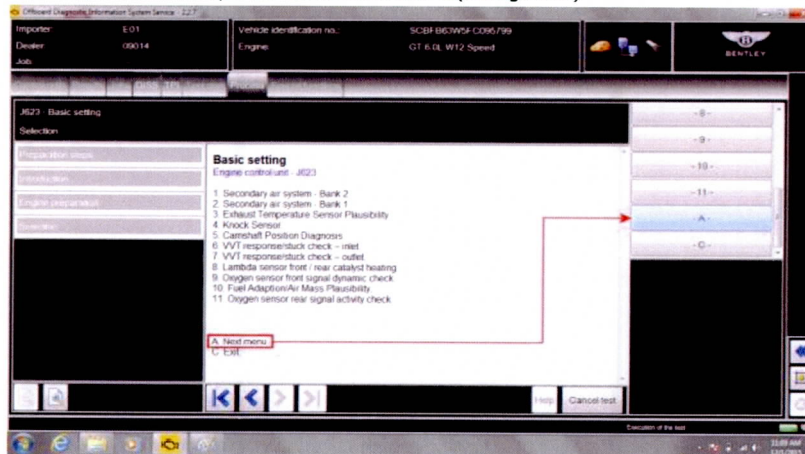

Figure 16
5. Within Basic settings select A Next menu. (see Figure 16)